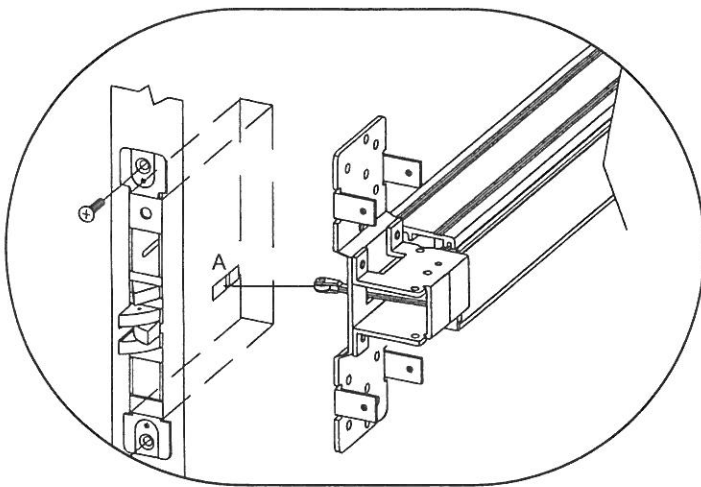
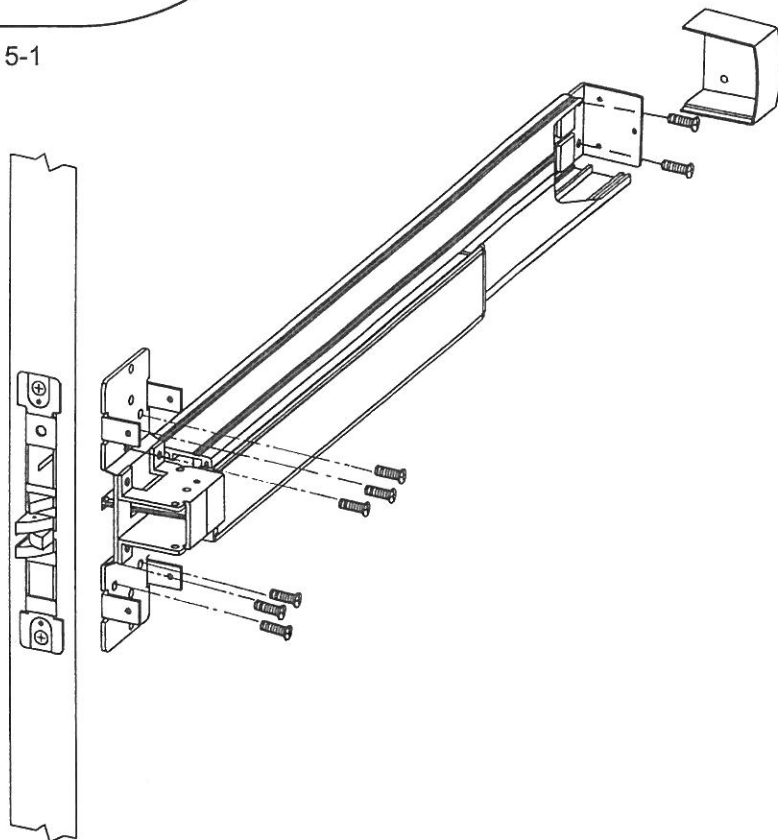

Figure 5-1
Figure 5-2
2. Insert the Pull Finger beneath device chassis into the hole A in lock case ( see Figure 5-1), then mount device horizontally to the drilled position with supplied 6 screws to door. (See Figure 5-2.)